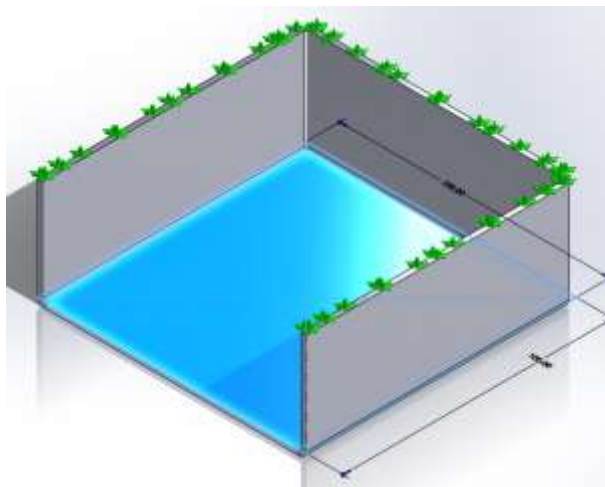
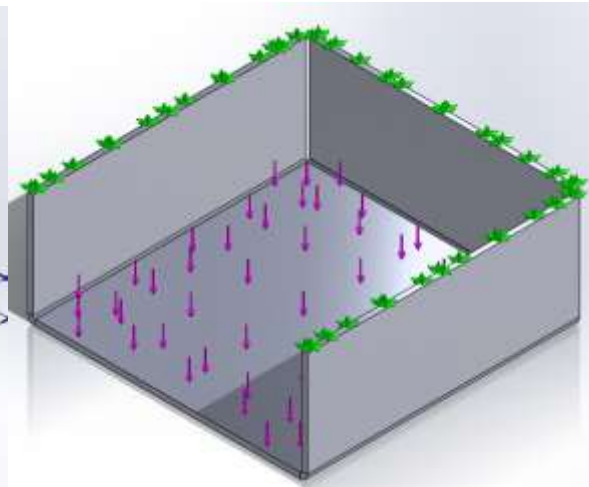

Figure 9
Figure 10
4. Right-click on *External Loads* and select *Force*. The direction should be normal, the units should be SI and the Force Value should be 1,000 N. Then select the face shown in Figure 9 for the *Faces* and *Shell edges* for *Normal Force* and click okay. Your simulation should now look like Figure 10.